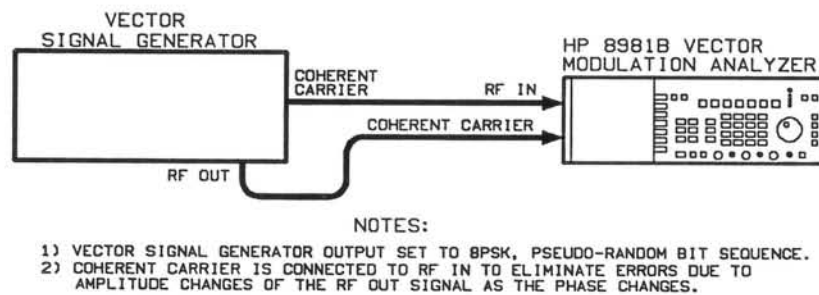
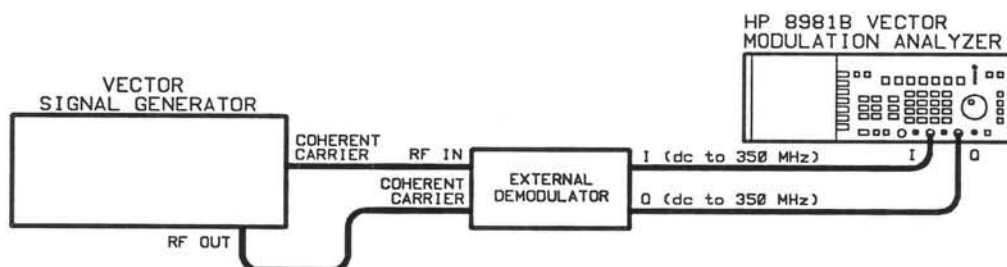

Figure 3-14. Equipment Setup—Internal Demodulator
Figure 3-15. Equipment Setup—External Demodulator
2. Set up the instrument and other equipment as shown in Figure 3-14 for the internal demodulator or Figure 3-15 if an external demodulator is used.
5. Depending upon whether a tone or 8PSK signal is being used, set up the instrument and other equipment as shown in Figures 3-14 or 3-16 for the internal demodulator or Figures 3-15 or 3-17 if an external demodulator is used.